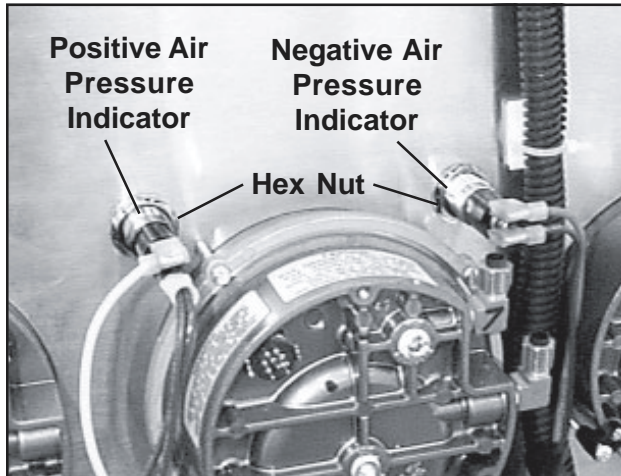

Figure 72. Indicator Lamps (rear view)
3. Pull the wire connectors off the two terminals on the back of the lamp base (Figure 72).
4. On the rear of the front panel (Figure 72), use a 13/16 in. open-end wrench to unscrew the hex nut on the lamp base.